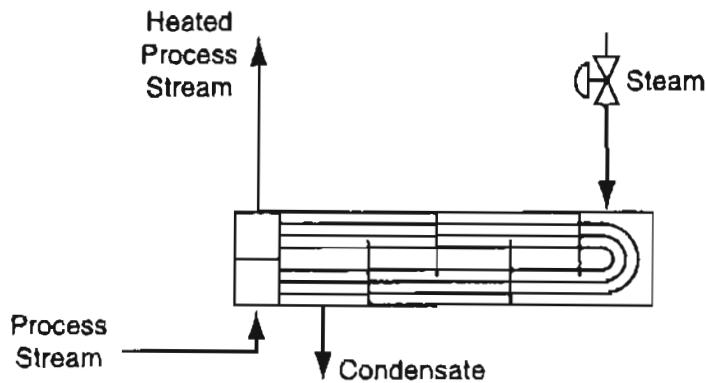

Figure P6.5
- *6.5 Heat exchangers are used to transfer heat from one fluid to another fluid, such as from a hotter fluid to a cooler fluid. Figure P6.5 shows a heat exchanger that transfers heat from condensing steam to a process stream. The steam condenses on the outside of the heat exchanger tubes while the process fluid absorbs heat as it passes through inside of the heat exchanger tubes. The feed rate of the process stream is measured as 45,000 lb/h. The flow rate of steam is measured as 30,800 lb/h, and the exit flow rate of the process stream is measured as 50,000 lb/h. Perform a mass balance for the process stream. If the balance does not close adequately, what might be a reason for this discrepancy?